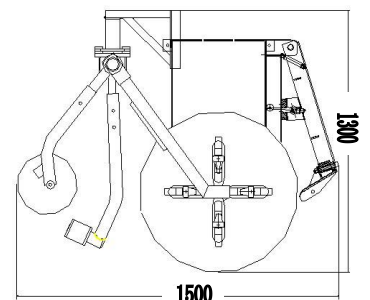

Fig 13
Fig 13 shows the minimum distance (cm) from walls after assembly this auxiliary device. Please choose the right place to install it. And note keep at least 500mm from all direction for operation.
- 5) Turn the rotating arm 1 to its working position. Fix the tyre with the tyre pressing head (upper) 2 and tyre pressing head (bottom) 5 preparing for central positioning; (Fig 13)